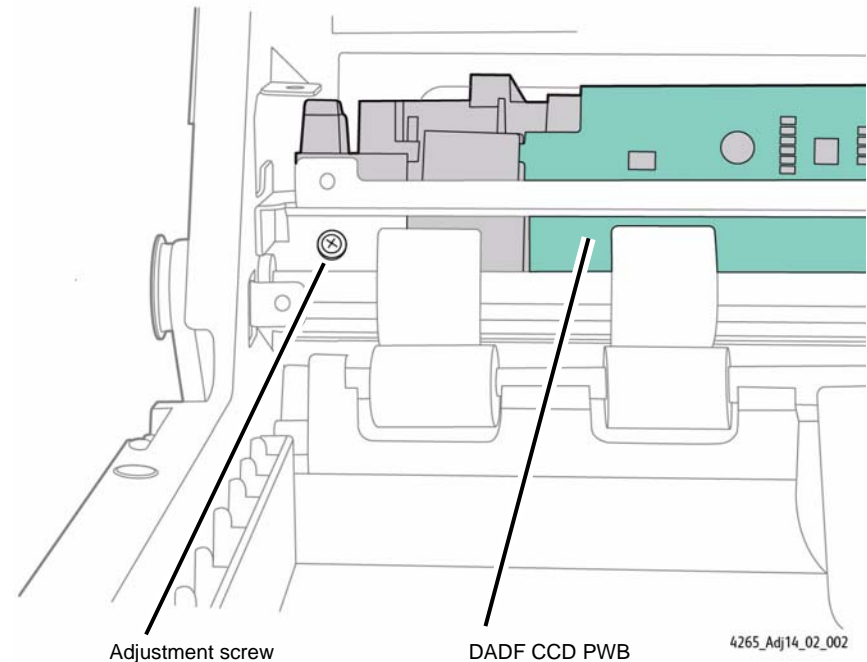

Figure 2 CCD Adjustment Screw Location
2. Study the following graphics to become familiar with the components involved in the adjustment (Figure 1) (Figure 2).